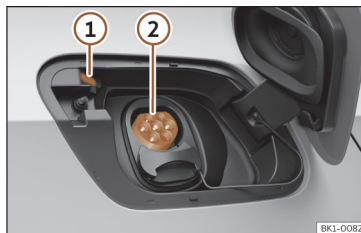

Fig. 56 Behind the battery charging cover on the rear right-hand side: Charging socket
>>> Fig. 56
The LED (charging process indicator) of the charging socket ① flashes or flashes white >>> Fig. 56, >>> page 79.